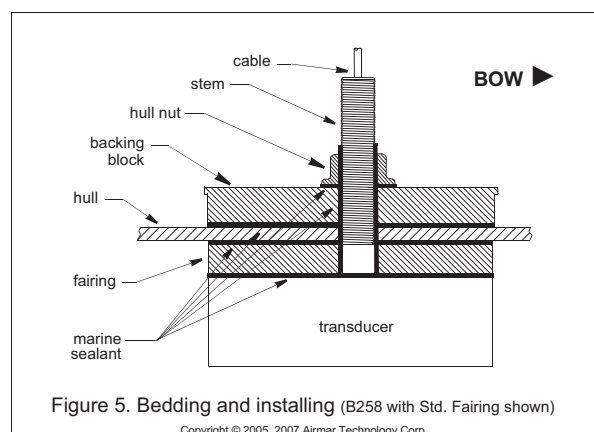

Figure 5. Bedding and installing (B258 with Std. Fairing shown)
1. Remove the hull nut (see Figure 5).
4. Apply a 2mm (1/16") thick layer of marine sealant to the following surfaces (see Figure 5):